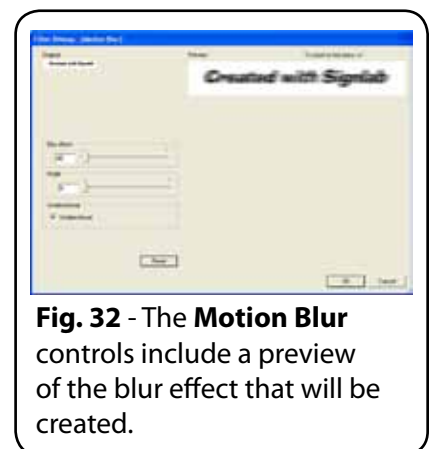

Fig. 32 - The **Motion Blur** controls include a preview of the blur effect that will be created.
47. In the **Filter Bitmap [Motion Blur]** dialog (Fig. 32), use the following: